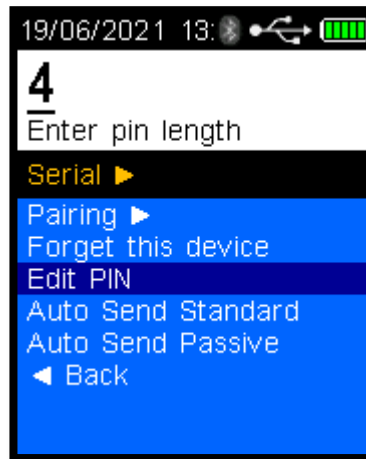

Figure 103 Enter Pin Length Displayed
- Press the test key, enter pin length will be displayed (Refer Figure 103).